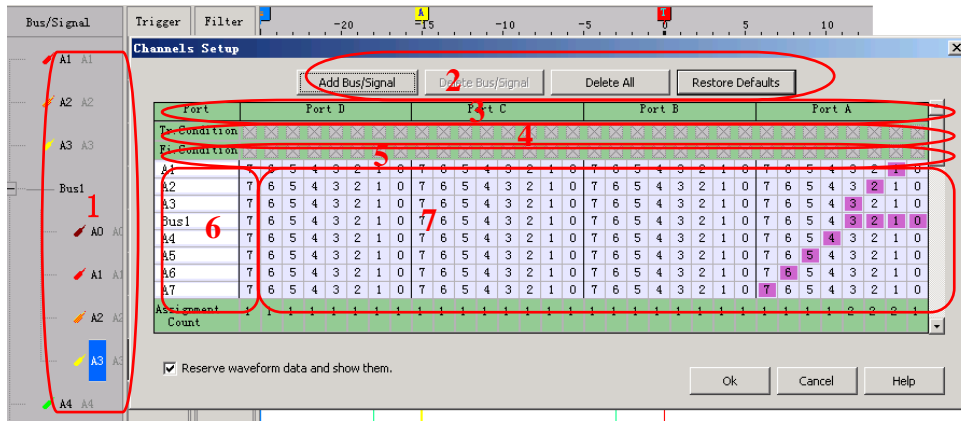

Fig 4-27 – Channels Setup Window
1. Delete Bus/Signal: Firstly highlight the Bus or channels on area 6 of Fig 4-27, then click **Delete Bus/Signal** to delete them.
2. Delete All; Click **Delete All** to delete all Bus/signals on area 6 of Fig 4-27.